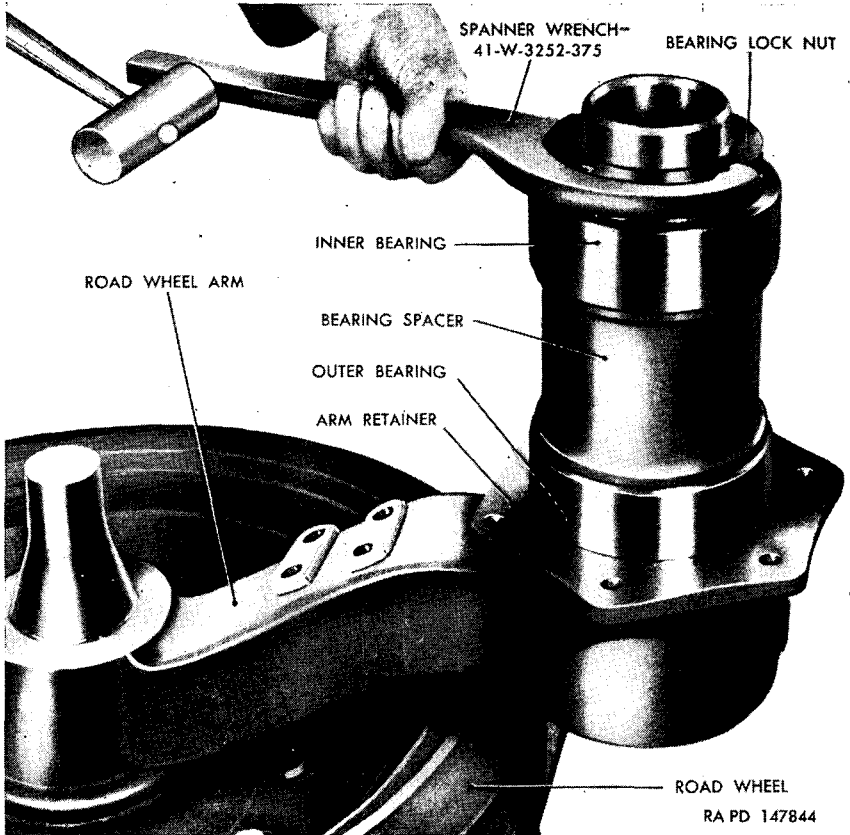
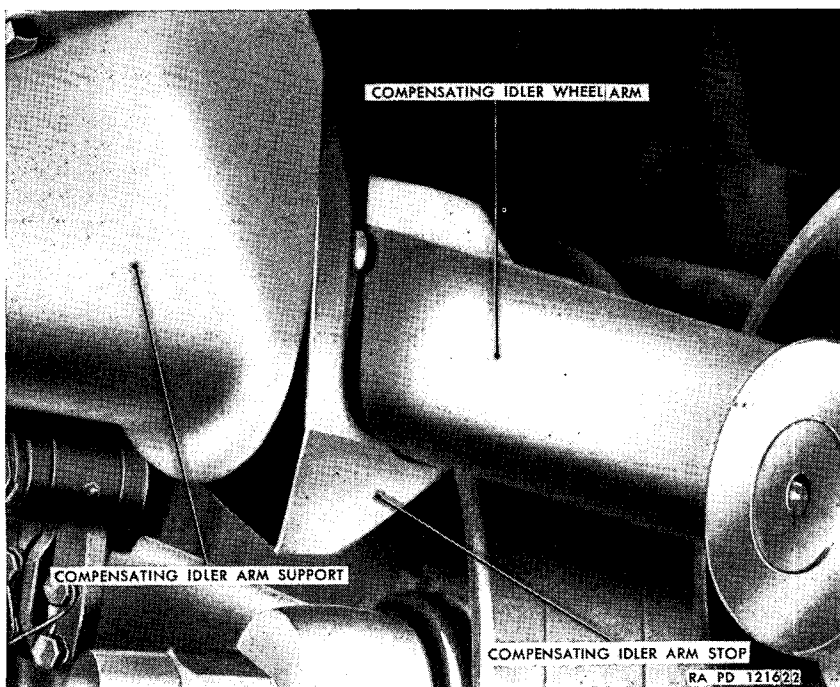

Figure 266. Removing road wheel arm spindle inner bearing lock nut.
Figure 269. Compensating-idler arm and arm stop.
Straighten the inner bearing-nut lock washer (fig. 256) and remove the inner bearing lock nut with the spanner wrench 41-W-3252-375 (fig. 266). Remove the lock washer and bearing retaining washers. Remove the inner bearing. Remove spindle bearing spacer and outer bearing. Lift off the arm retainer and remove the oil seal from the retainer, using a drift. Discard used oil seals.
Install the inner bearing retaining washer, bearing nut lock washer, and bearing lock nut. Tighten the bearing lock nut with the spanner wrench 41-W-3252-375 (fig. 266). Flatten the nut lock washer tangs into the grooves in the nut. Position the arm retainer gasket on the arm retainer face. Install the road wheel arm and spindle in the arm support and install the arm retainer bolts. Install the torsion bar (par. 253). Connect the shock absorber (par. 255). Install the road wheels (*a* above). Lubricate the bearings as specified on lubrication order (fig. 87).
- (1) *Removal and disassembly.* Remove the compensating idler wheel (*a*(1) above). Remove rear road wheel (par. 250*a*). Remove the torsion bar (par. 253). Remove six bolts and lock washers which secure compensating idler arm retainer to support (figs. 259 and 270). Screw the adapter 41-A-18-248 (fig. 79) into the torsion bar end plug threads. Attach the slide hammer puller 41-P-2957-33 (fig. 82), to the adapter and remove the compensating-idler arm and spindle. Remove bearing lock nut, using spanner wrench 41-W-3252-375 (fig. 266). Remove lock washer and inner bearing retainer (fig. 270). Remove bearings and bearing spacers. Remove oil seal and arm retainer from outer bearing spacer. Remove oil seal from retainer.
- (2) *Cleaning and inspection.* Clean arm, bearing races, rollers, and spindles with volatile mineral spirits or dry-cleaning solvent. Inspect races and rollers for cracks, chipping and wear and replace any defective parts. Inspect arm for distortion; the arm spindle and wheel spindle should be parallel. Inspect spindles, especially all threads. If arm is bent or spindles damaged, replace arm assembly.
- (3) *Assembly and installation.* Install oil seal into arm retainer (fig. 270) by driving it into position with replacer 41-R-2391-420 and handle (41-H-1396-510 (fig. 79)). Install oil seal and retainer on outer bearing spacer by driving it into place with replacer 41-R-2391-420 and handle 41-H-1396-510. Install bearing spacer with oil seal and retainer on spindle. Pack bearings with lubricant as specified on lubrication order (fig. 87) (except nylon-type bearing (see *Note*, par. 250*d*(1))). Install outer bearing, inner bearing spacer, inner bearing, and inner bearing retainer. Install lock washer and lock nut, using spanner wrench 41-W-3252-375 (fig. 266). Flatten the washer tangs to lock the nut. Position the gasket on the arm retainer face. Install the idler arm and spindle in the compensating idler arm support (fig. 269) and install six bolts and lock washers to secure the arm retainer. Install the torsion bar (par. 253). Install the compensating idler wheel (*a*(3) above). Install rear road wheel (par. 250*a*). Lubricate as specified on the lubrication order (fig. 87).